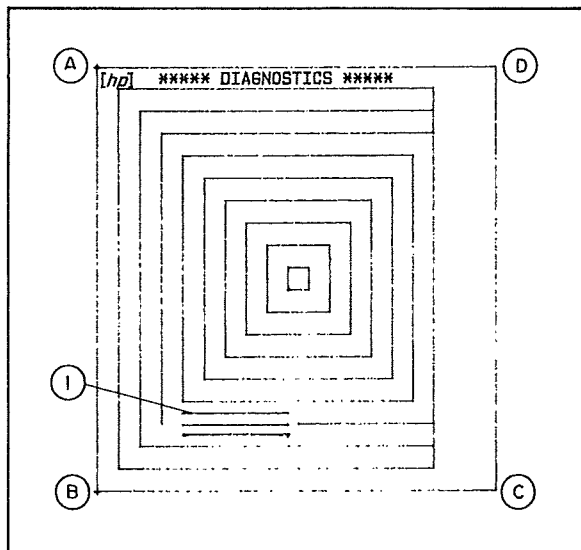
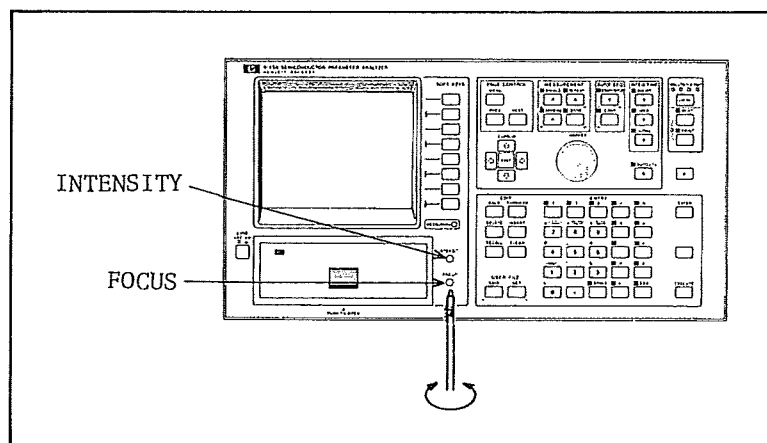

Figure 5-1. Test Pattern for GDU.
Figure 5-2. INTENSITY and FOCUS Locations.
2. Display the test pattern (Figure 5-1) by pressing the G.D. TEST softkey.
3. Adjust INTENSITY with an insulated screwdriver until line 1 (see Figure 5-1) is just barely visible. Refer to Figure 5-2 for the INTENSITY adjustment location.
4. Adjust FOCUS for sharp, well-defined trace at points A, B, C, and D first, then over the entire CRT. Refer to Figure 5-2 for the FOCUS adjustment location.